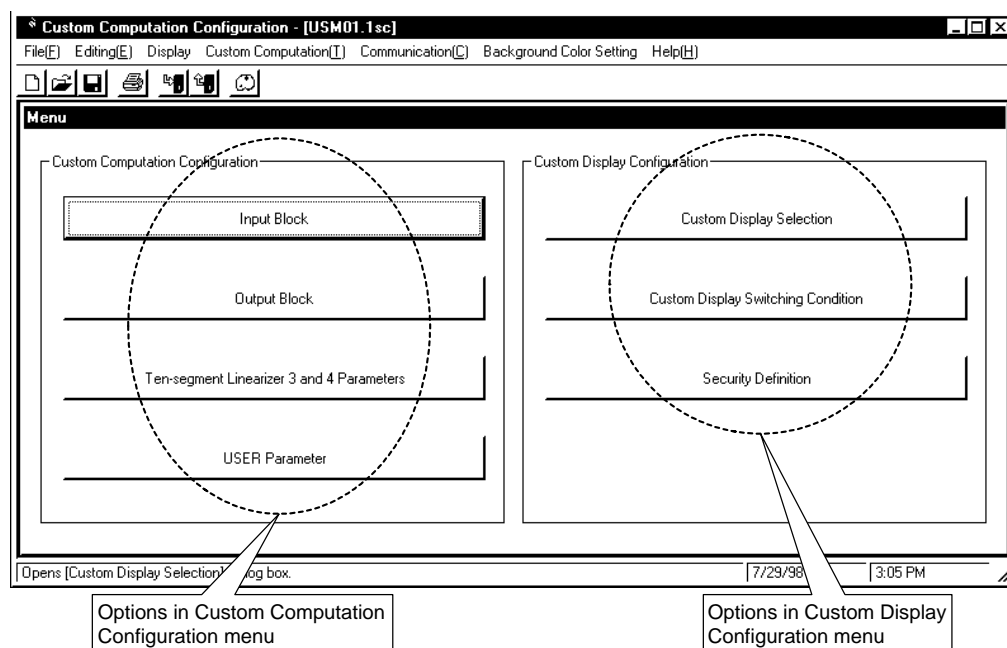
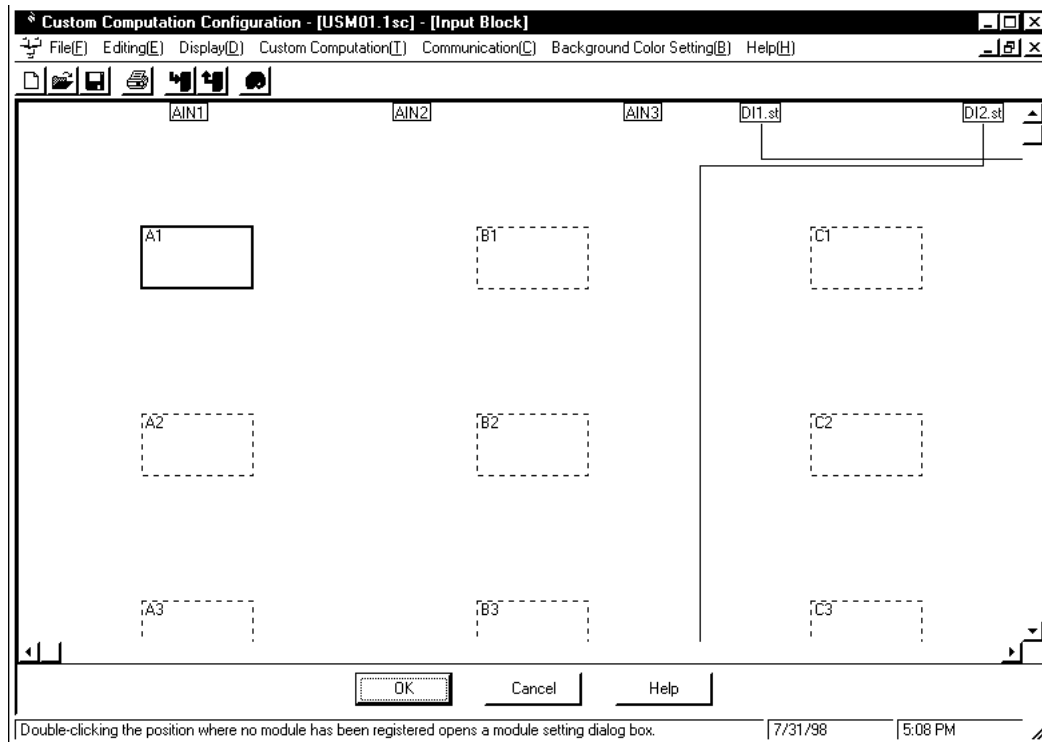

Figure 12.0.2 [Custom Computation Configuration Menu/Custom Display Configuration Menu] Dialog Box
Figure 12.1.4 [Input Block] Dialog Box
- ① In the [Tool Selection] dialog box, click the <Custom Computation Building Tool> option button. Then, click the <OK> button.
- ③ In the [Open Sample File] dialog box, choose the sample for single-loop control (file name: USM01.1SC) as the file to be read.
- ④ In the [Specify Suffix Code and Controller Type] dialog box, choose <Single-loop type> as the controller type. Specify the same suffix and optional suffix codes as those of the US1000 controller you will connect to the system.
- ∞ In the [Specify Suffix Code and Controller Type] dialog box, click the <OK> button. The [Custom Computation Configuration Menu/Custom Display Configuration Menu] dialog box (Figure 12.0.2) appears.
- ① In the [Custom Computation Configuration Menu] dialog box (Figure 12.0.2), click <Input Block>. The [Input Block] dialog box (Figure 12.1.4) appears.